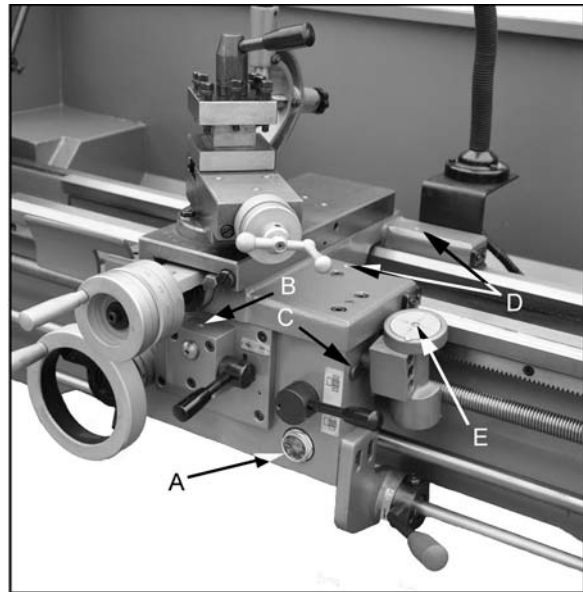

Figure 8
5. **Apron** - Oil must be up to indicator mark in oil sight glass (A, Fig. 8). Top off with Mobil DTE® Oil Heavy Medium. Fill by removing oil plug (C, Fig. 8). After the first three months of operation, drain oil completely (drain is on the bottom of the apron) and refill with Mobil DTE® Oil Heavy Medium, at a level equivalent to the indicator line. Then, change oil annually.
6. **Feed Selector** - Lubricate ball oiler (B, Fig. 8) once daily with Mobil DTE® Oil Heavy Medium.
7. **Carriage** - Lubricate two ball oilers (D, Fig. 8) once daily with Mobil DTE® Oil Heavy Medium.
8. **Thread Dial Indicator** - Lubricate ball oiler (E, Fig. 8) once daily with Mobil DTE® Oil Heavy Medium.